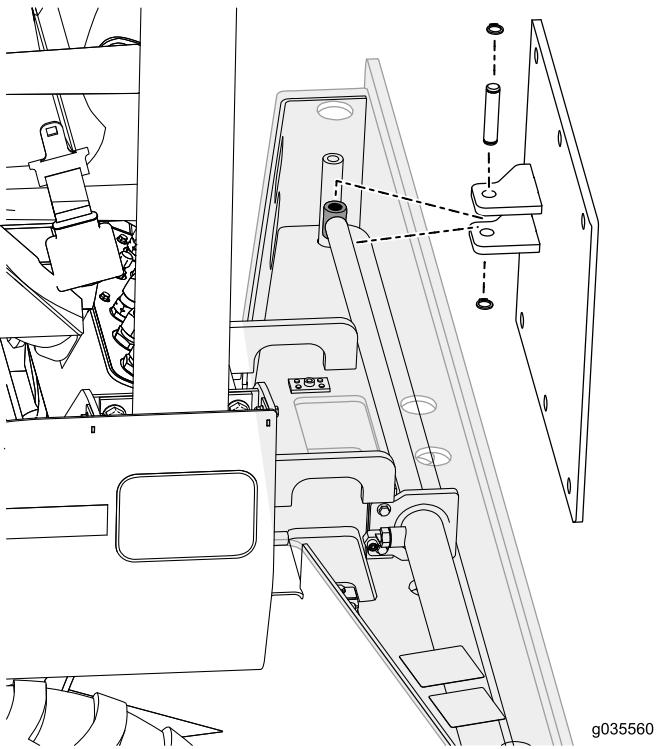

Figure 3
6. Secure the slide mount plate to the cylinder using the clevis pin and 2 retaining rings as shown in Figure 3.